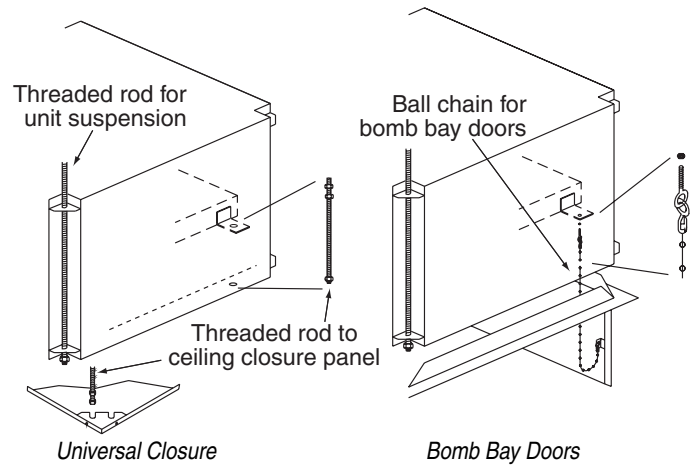

Figure 2
- ① Attach closure to LCD Lift frame with factory supplied hardware. Bomb bay doors should be hanging straight down.
- ② Lower unit until traveling pan is approximately 10 cm above its lowest position.
- ③ Install supplied ball chain to connectors attached to the eye bolts threaded into angles on traveling pan (See Fig. 2).
- ④ Install ball chain to connectors attached to bomb bay doors.
- ⑤ Raise unit to highest position. Doors should close completely.
- ⑥ If the doors do not close completely, lower unit and adjust the eye bolts until doors close completely.
- ⑦ Once "closed" position has been accomplished, lock eye bolts into place with hex jam nuts.
- ⑧ Adjust the LCD Lift to the height of the finished ceiling.